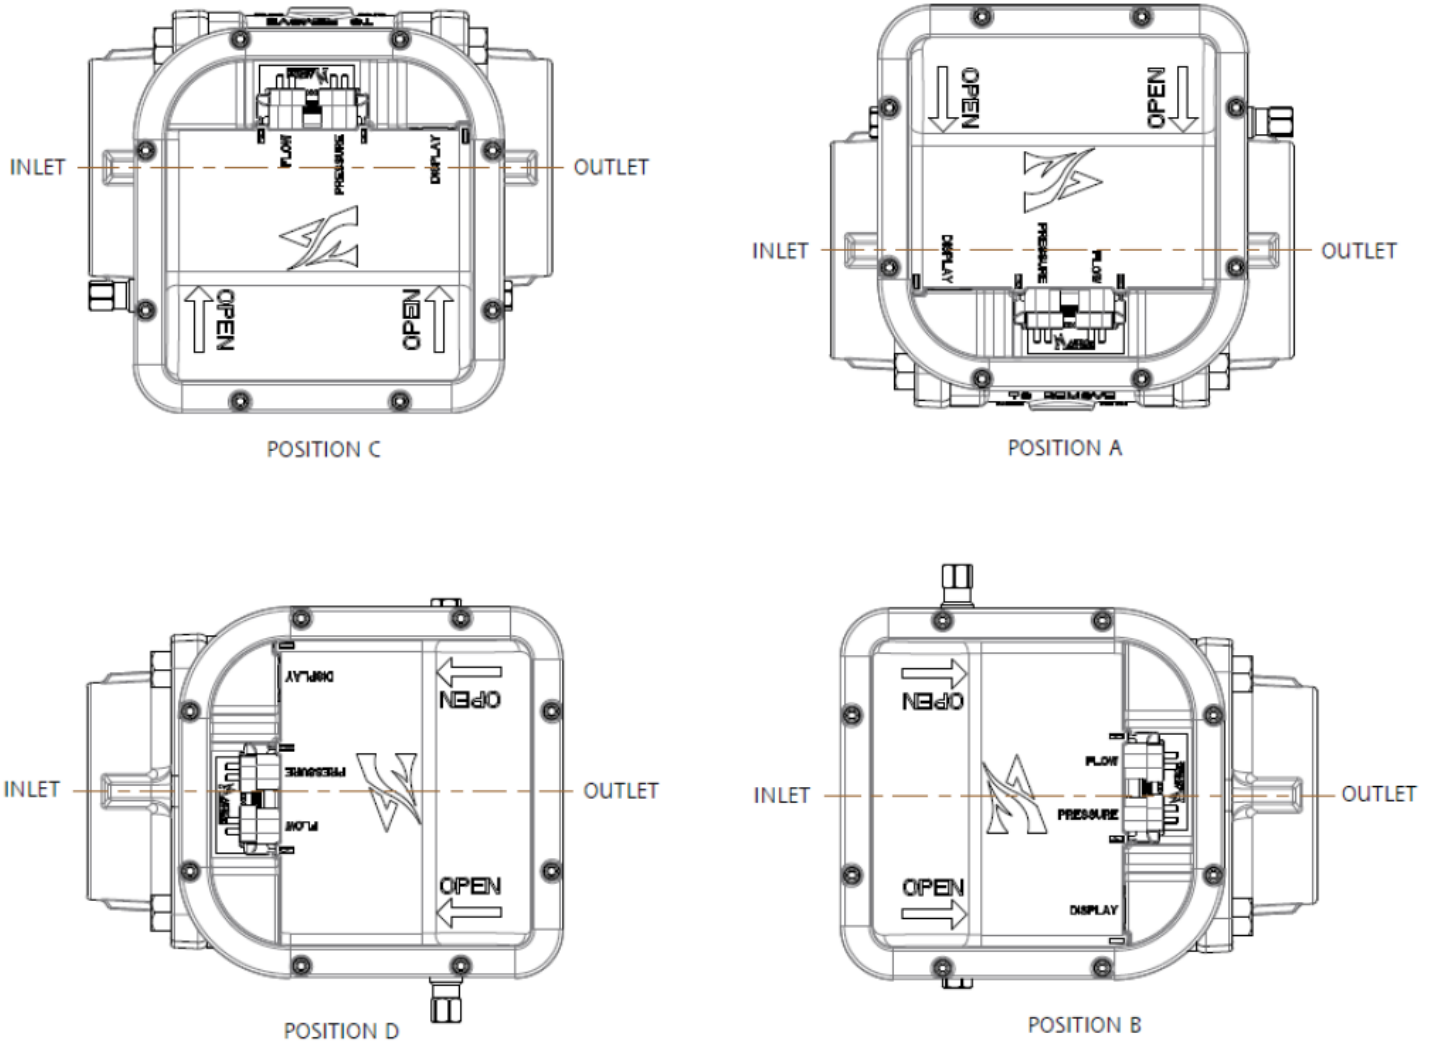
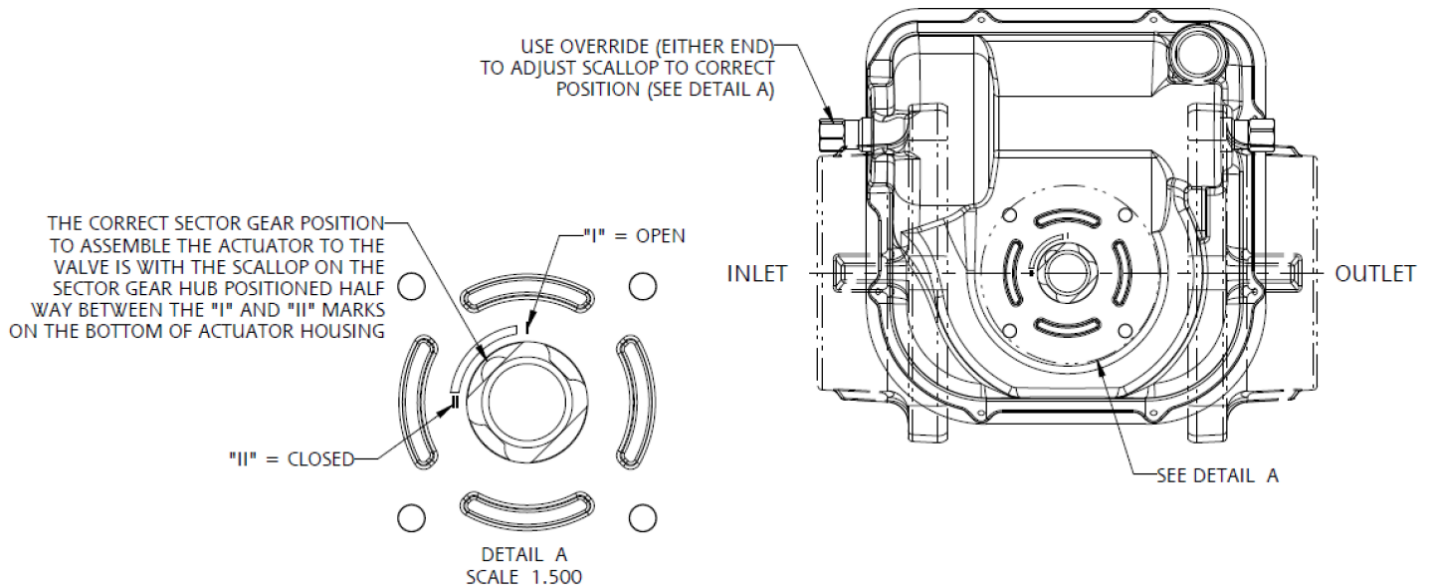
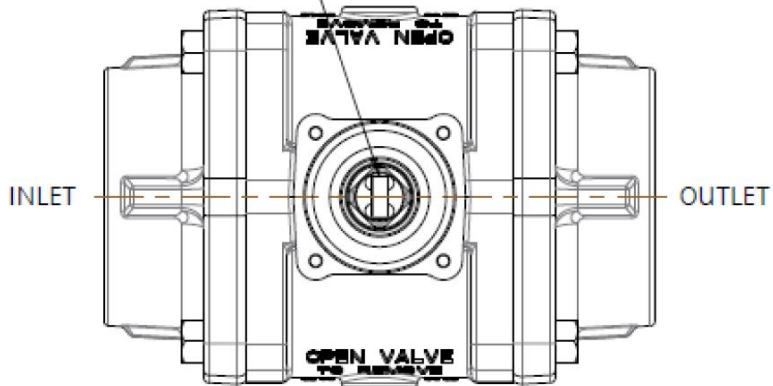

Fig. 4
Fig. 5
Fig. 6
- Rotate ball in valve housing so it is halfway between open and closed. Then place trunnion G into valve until it engages with the valve ball, the magnet in the end of trunnion should be perpendicular length wise to waterway (Fig. 6).
- Determine the desired actuator position (Fig. 4) noting the required sector gear orientation (Fig. 5). If the sector gear is in the wrong orientation, turn the hex end of drive shaft with a 7/16" wrench (Fig. 3) until gear is orientated correctly. Slip the electric actuator over trunnion in the desired actuator position (Fig. 2) down into the top of the valve body. Ensure washer F is in place between the valve body and the actuator, and that the trunnion fits into the slot on the valve ball. The wrench connections for the manual override (Fig. 3) should be accessible from left or right truck panel.
- A. Install the electrically actuated valve into the apparatus piping. To facilitate the installation, the valve adapters may be removed from the valve body, mounted on the piping and the valve body re-bolted onto the adapter flanges. The actuator may be positioned on the top, bottom or side of piping. If necessary, the actuator may also be rotated on the valve to any of the four positions shown on the following page. **NOTE:** The magnet on the trunnion and sector gears must be in the right orientation (Fig.5 and Fig. 6). **The valve must not be installed more than 20 feet from master controller if power for valve is being supplied from the 8 pin Deutsch Connector on the display. See controller installation instructions. Do not splice wiring harness or connect through slip (collector) rings on aerials. Auxiliary controller must be used for this application. The valve actuator will need to be calibrated using the Navigator Controller once installation is complete.**